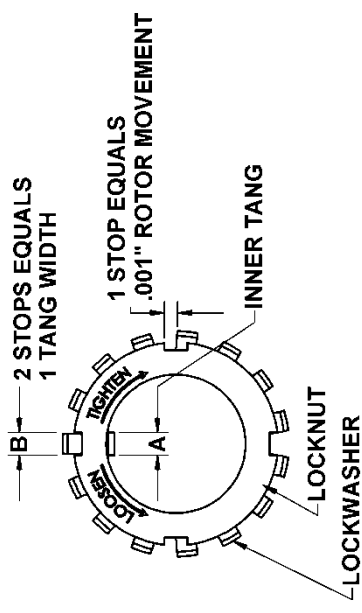

Figure 9 – Locknut Assembly
- Overtightening locknuts can cause bearing failure or a broken lockwasher tang. Loose locknuts will allow the rotor to shift against the heads, causing wear. See Figure 9.